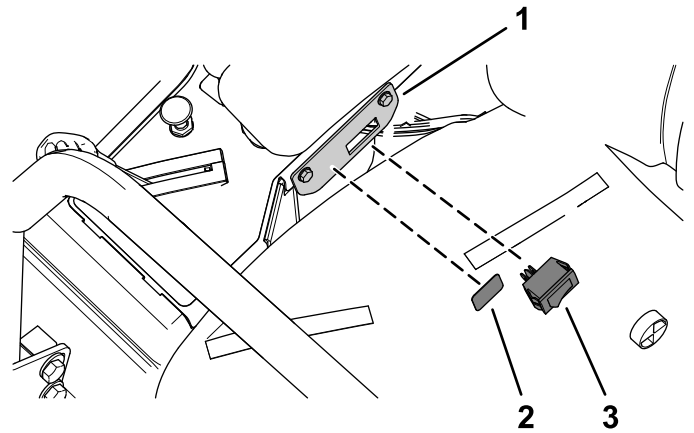

Figure 8
2. Insert the rocker switch into the light switch bracket (Figure 8).
3. Apply the light switch decal to the light switch bracket (Figure 8).